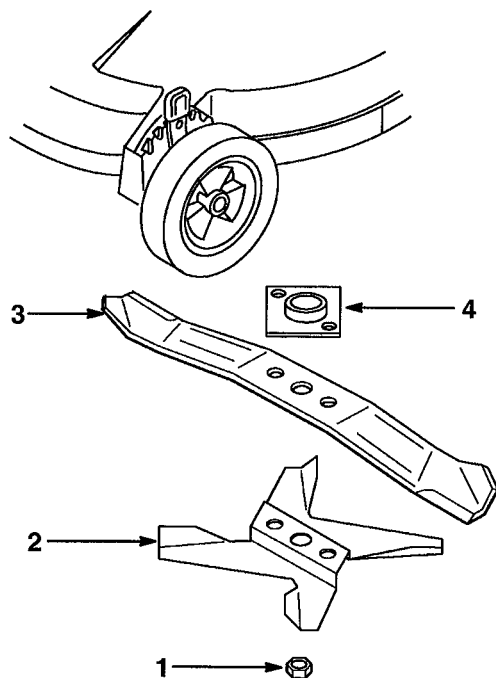

Figure 23
1. Remove blade nut and mulching fan (Fig. 23)
2. Remove blade from blade driver (Fig. 23).
1. Install blade driver onto crankshaft (if removed) (Fig. 23).